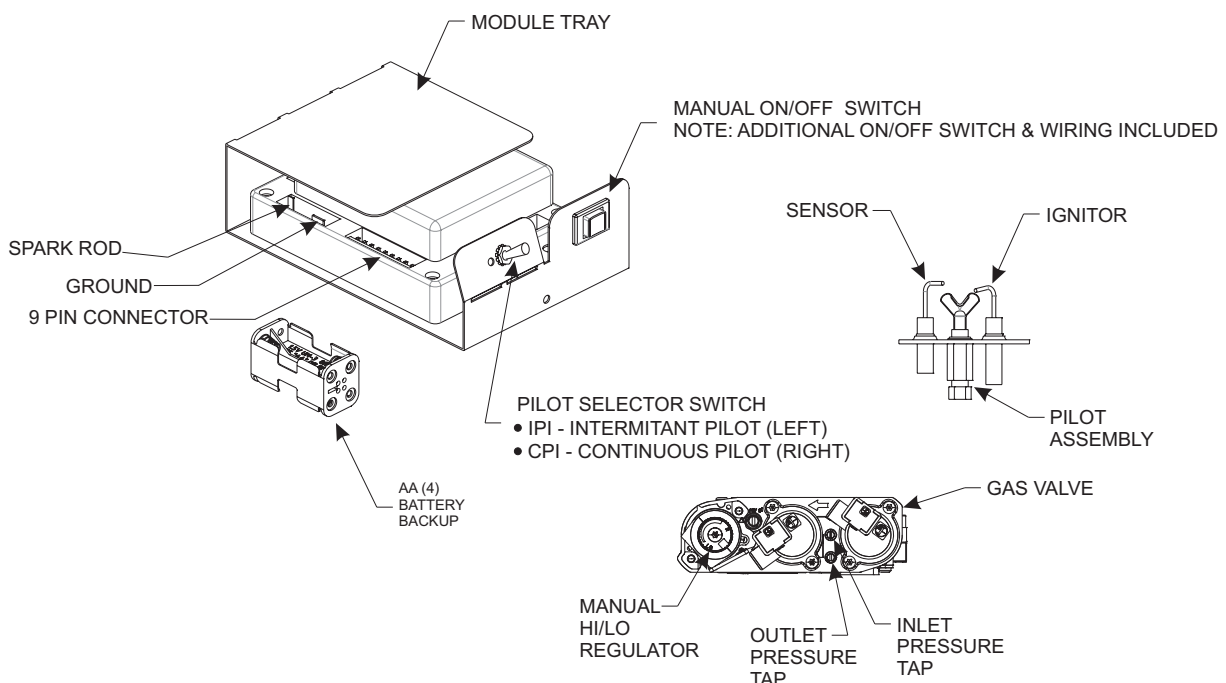

Figure 78
See Figure 78.
3. The gas valve has inlet and outlet pressure taps as shown in **Figure 78**. Refer to pages 8 and 17 for gas pressure requirements.
NOTICE: The gas control has a manual HI/LO flame adjustment knob (regulator) that allows you to increase or decrease the height of the burner flame. **See Figure 78**. Rotate the HI/LO knob counterclockwise to "HI" to increase the flame height, and clockwise to "LO" to decrease the flame height.
To connect the remote receiver to the appliance, first disconnect the ON/OFF switch wires from the white and green wire connectors and connect the wires from the remote receiver to the green and white wire connectors. **See Figure 78.**